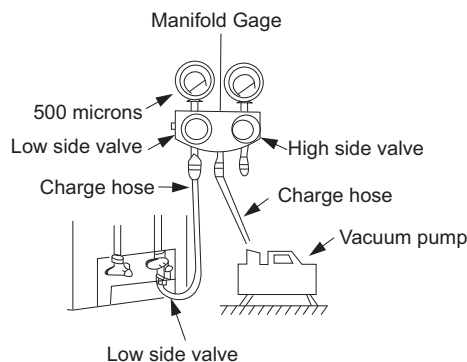

Fig. 21 – Manifold
- 3 Fully open the low side of manifold gage (see Fig. 21).